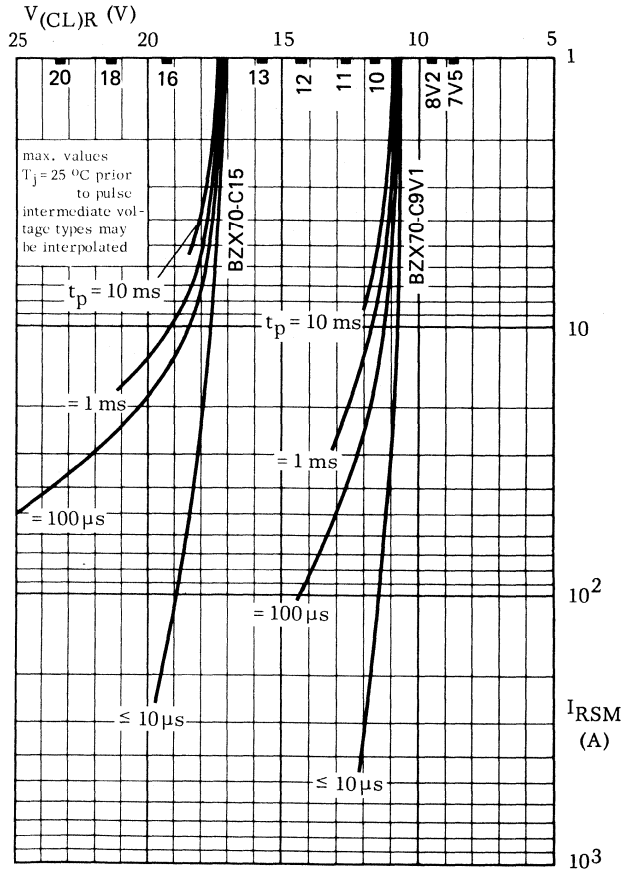

Fig. 19 Square pulses.
2. Maximum clamping voltage is the maximum reverse avalanche breakdown voltage which will appear across the diode at the specified pulse duration and junction temperature. For square pulses see Figs 19 and 20, for exponential pulses see Figs 21 and 22.